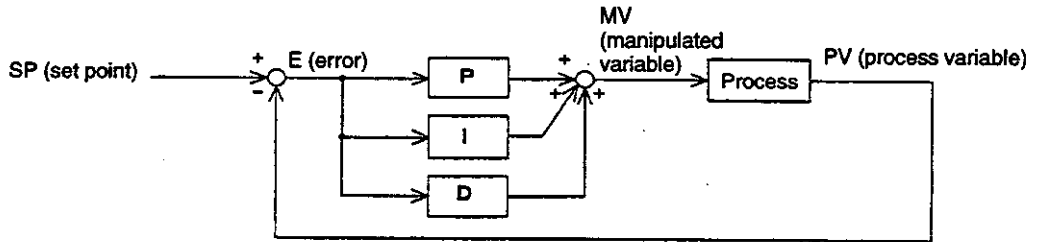

Figure 2.5 Error Value Differentiation
- 1) The general equation for PID calculations (error value differentiation) of continuous analog values is shown at (a) below. The relationships between the elements in the calculations is shown in *Figure 2.5*.